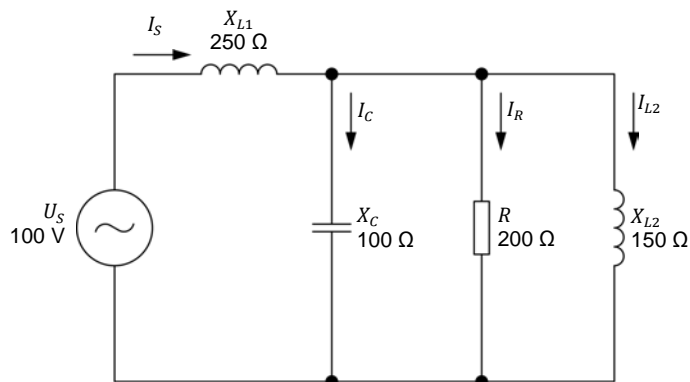

Figure 4-10. AC power circuit containing a resistor, two inductors, and a capacitor.
2. Calculate the source voltage U_S in the ac circuit of Figure 4-10, assuming that the resistor voltage U_R is still 60 V.
3. Calculate the actual total reactive power Q in the ac circuit of Figure 4-10 using the parameter values you calculated in the previous questions.
4. Calculate the actual source voltage U_s in the ac circuit of Figure 4-10 using the parameter values you calculated in the previous questions.
5. Calculate the power factor PF of the ac circuit in Figure 4-10 using the parameter values you calculated in the previous questions.